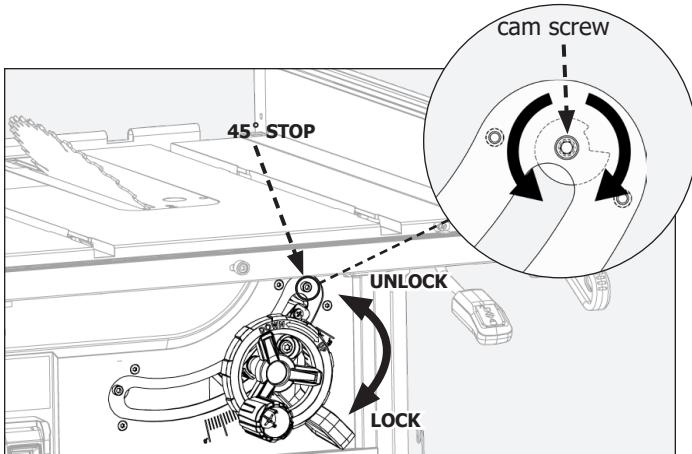

FIGURE 34
**NOTE:** For lock and unlock positions see FIGURE 34.
If blade does not check at 45° to the table when tilted to the 45° bevel stop cam, follow steps 1-4 by adjusting the 45° bevel stop cam using the 45° side of the combination square (FIGURE 34).